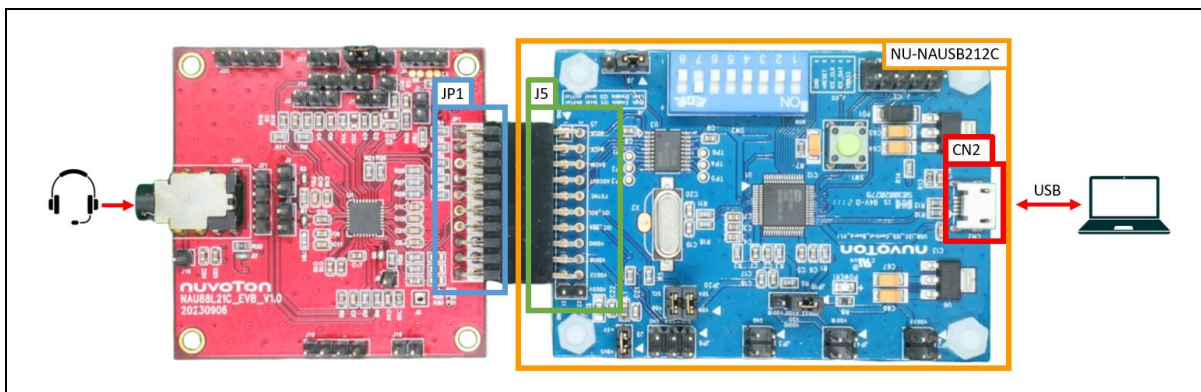

Figure 2-4 NU-NAUSB2I2C Connection
2. Connect J5 of NU-NAUSB2I2C to JP1 of NL-NAU88L21C. Figure 2-4 is the diagram after two boards are connected to each other.